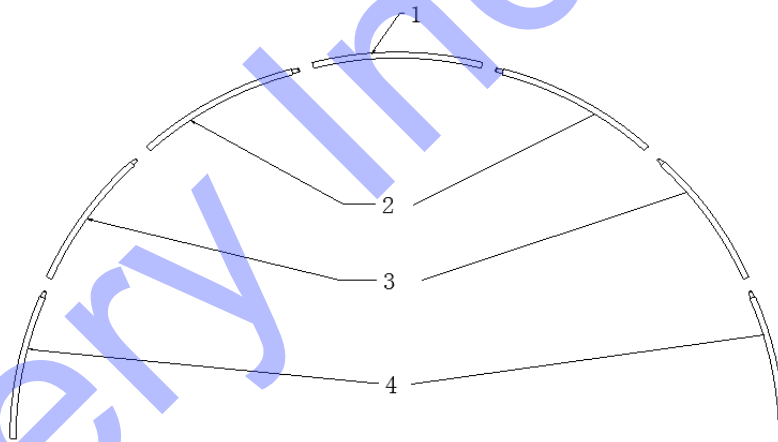
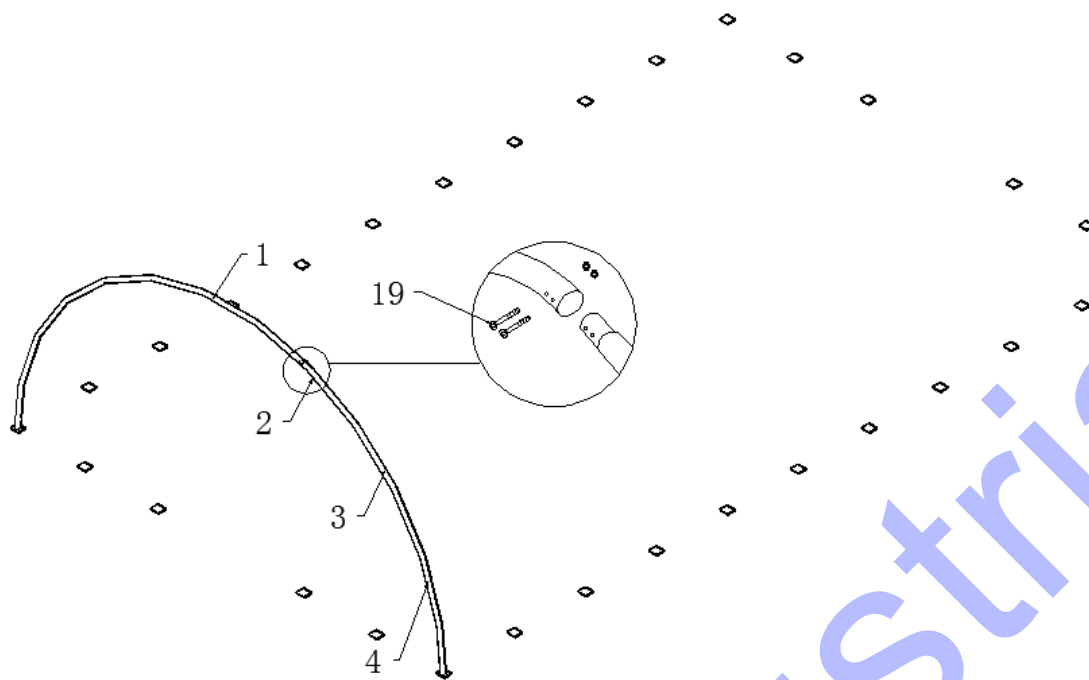

Figure 3
Figure 4
1. (Part No. $1*1+No.2*2+No.3*2+No.4*2$) As Figure 3 and Figure 4 shown to find one piece of Roof bent tube (No.1), two pieces of Upper bent tube for front and rear door(No. 2A), two pieces of Sidewall tube(No.3), two pieces of Lower bent tube (No. 4) . Connect them by using Bolt M10x100 (No. 19), which makes the first group of front door arch frame.Put the first group of arch frame into the base plates like the Figure 4 shows.